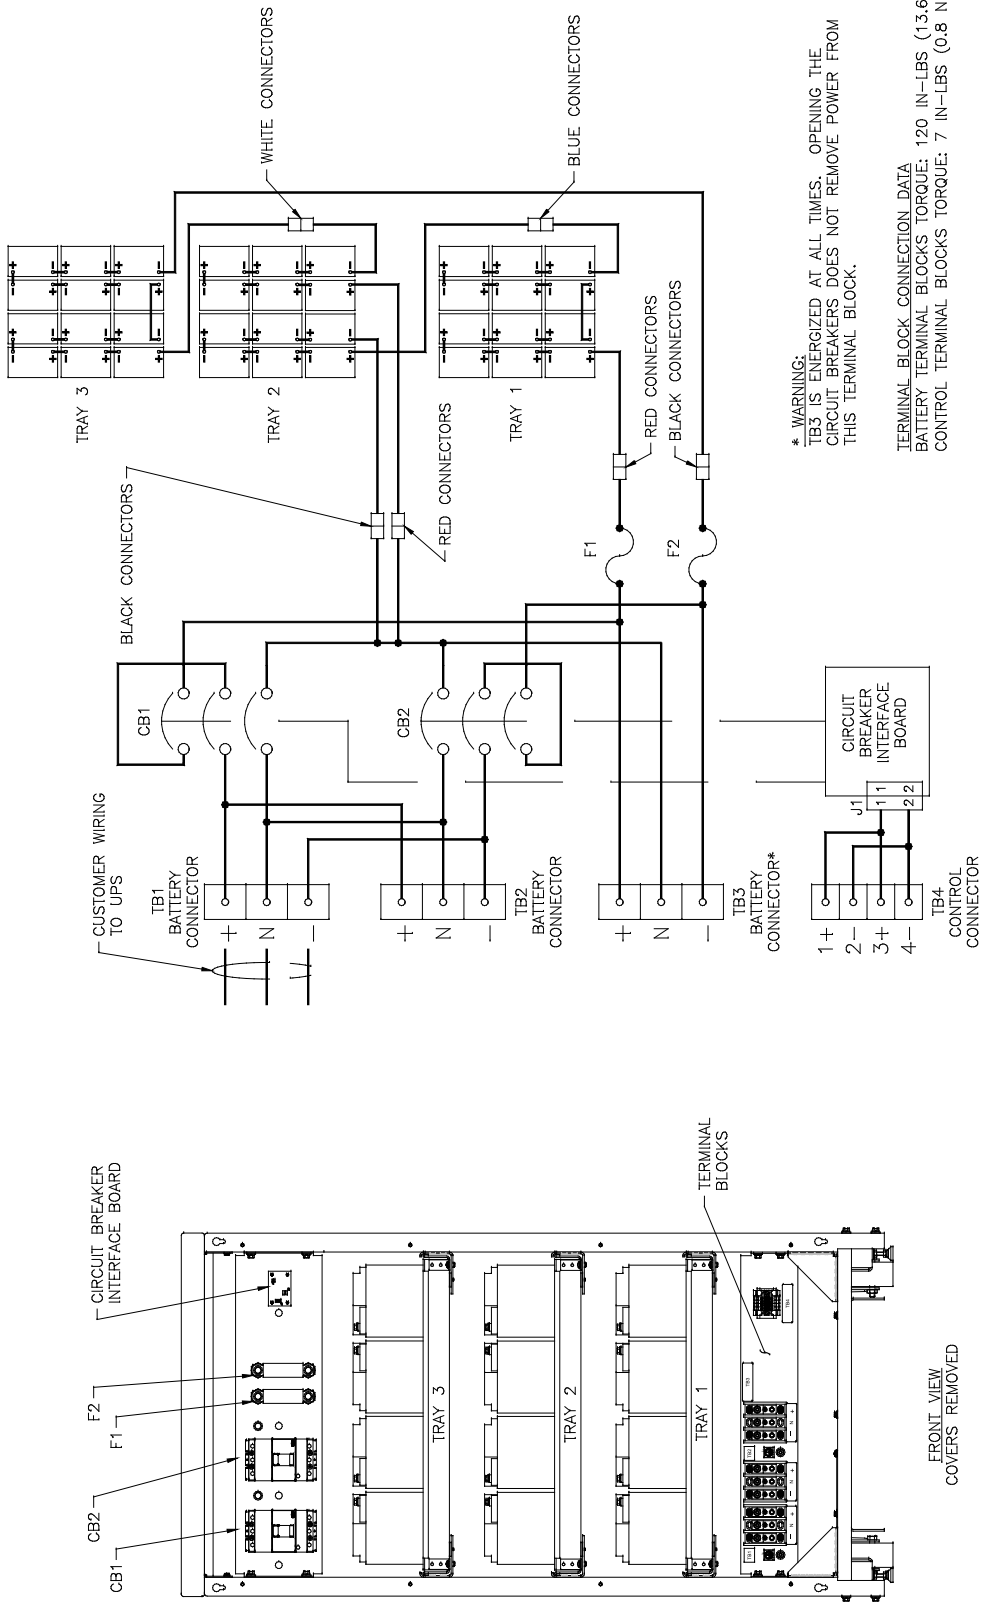

Figure 13 – Cabinet Schematic
- Mate the blue connections, blue to blue, and then the white connections, white to white. See **Figure 13**. Repeat this procedure for the other battery cabinets, if present.
Before any battery service is attempted, the batteries must be disconnected by unplugging the cables to the battery trays. If it is necessary to remove the cables from the batteries, the connections should be marked in a way that no confusion will exist when it is time to reconnect the cables (see **Figure 13**). The batteries are mounted in slide out trays that permit access to the battery to battery connections when the trays are withdrawn from the cabinet.